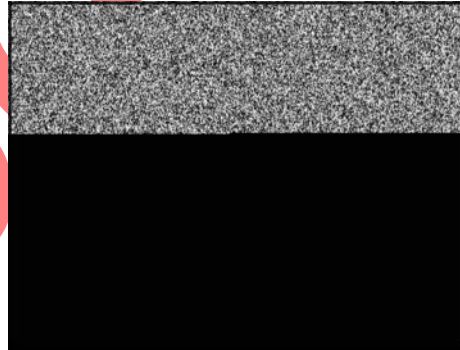

Figure 22
3. Using thumbs, press down on each valve spring retainer and disengage retainer (**A**, Figure 22) from valve stem (**B**). Remove retainers, springs, valves, and intake valve stem seal/washer, if equipped.